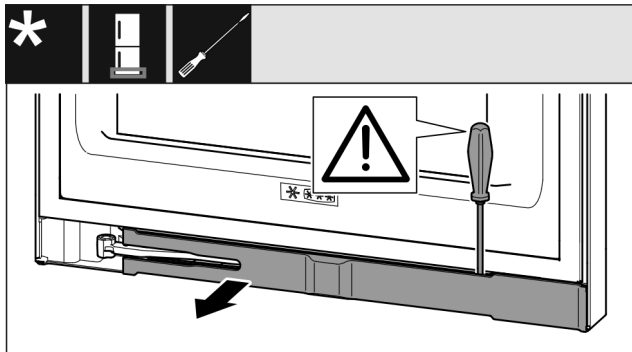

Fig. 14
- ▶ Use a slotted screwdriver to unlatch the trim and swing it to the side. (see Fig. 14)